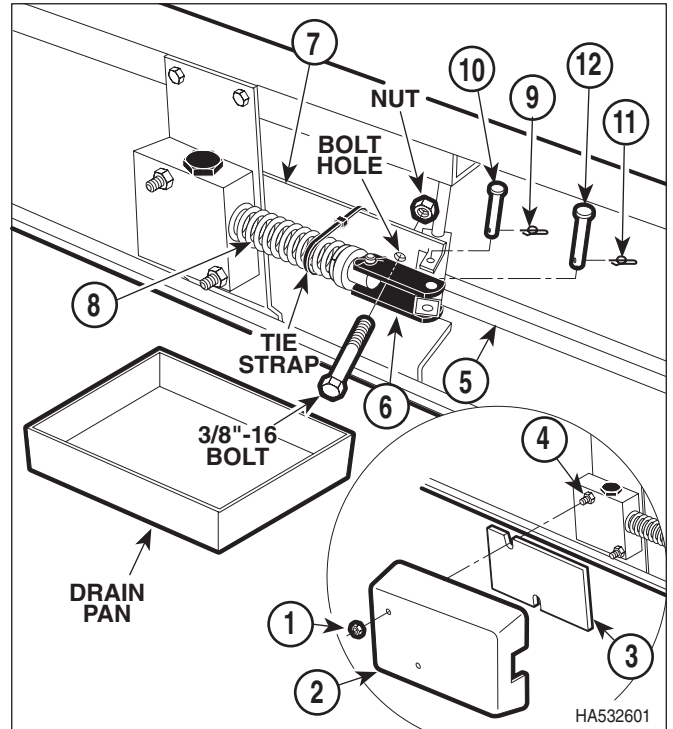

Figure 4-8. Foot Pedal Disconnection
- (1) Remove lower cover (Refer to para 4.2).
- (2) Depress the caster control pedal to the "brake" position.
- (3) If possible, lower litter top as low as it will go; then lay the stretcher onto its side.
- (4) Remove two nuts (1, Figure 4-8), pump cover (2), and pad (3) from two bolts (4).
- (5) Depress foot pedal (5) down as far as it will go and use a weight or some other method to keep it down.
- (4) Coat o-rings on elbows or male connectors (3 and 4) with oil.
- (5) Install elbows or male connectors (3 and 4) on pump assembly (5), making sure to tighten jam nuts of elbows after elbow itself has been hand tightened and positioned. Tighten jam nuts to 10 - 12 ft-lbs (13.5 - 16.2 N•m).
- (6) Connect hoses (1 and 2) to elbows or male connectors (3 and 4).
- (7) Connect pump pedal links (6, Figure 4-8) to pump pedal (5) with clevis pin (12) and rue ring (11).
- (8) Cut tie strap securing spring (8).